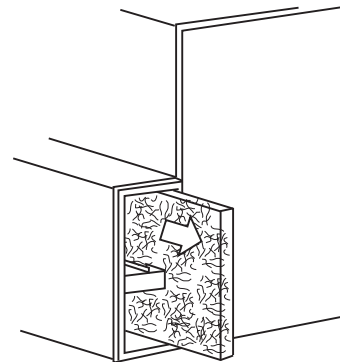
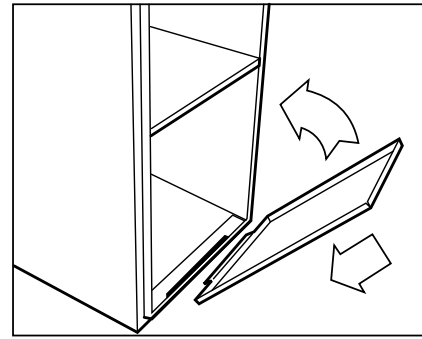

Fig. 29 - Removal of Filter from Side Blower Cabinet
Fig. 33 - Replace Blower Access Panel
b. Slide air filter out of furnace. Keep dirty side up (if dirty) to avoid spilling dirt. See Fig. 29 and 30.
7. Replace blower access panel and main furnace door (See Fig. 33 and 34) or filter cabinet door (Fig. 29 and 30).